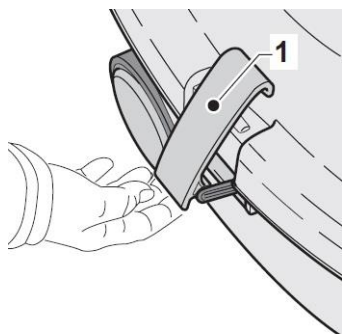
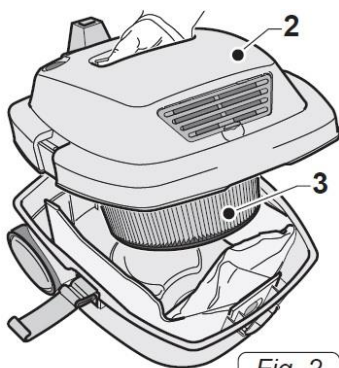

Fig. 1
Fig. 2
2. Release both hasp locks (1 Fig.1) and remove top section (2+3 Fig.2).
2. Release hasp locks (1 Fig.1) and remove top section (2+3 Fig.2).